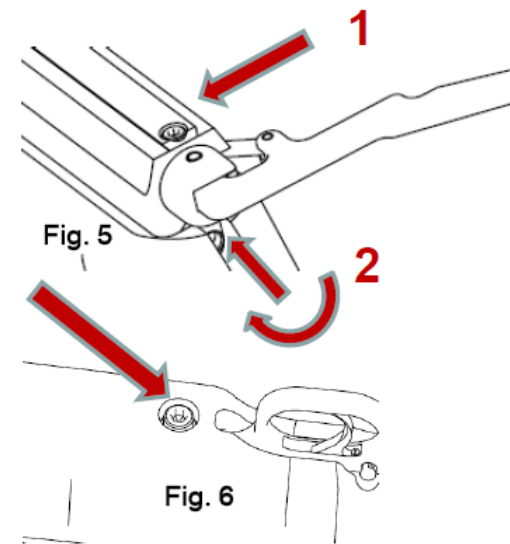

Fig. 5
All models are equipped with a power regulator. The power levels are determined by the laws of each country. Before making any adjustments, make sure the airgun is unloaded. Loosen the locking screw (Fig. 5, position 1); this screw serves to lock the power regulation screw. Then, using the allen key supplied turn the power regulation screw (Fig. 5, position 2) clockwise to increase the power or counter-clockwise to decrease the power.
- After setting the desired power, tighten the locking screw (Fig. 5, position 1).